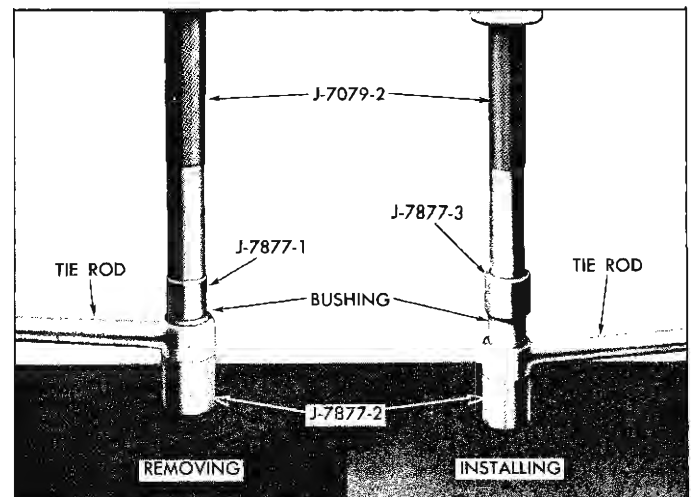

Fig. 33—Tie Rod Bushing Replacement
1. With tie rod bushing centered over Tool J-7877-2 and with tie rod supported horizontally, press or drive bushing from rod, using Tools J-7877-1 and J-7079-2 as shown in Figure 33.
2. With tie rod end centered over Tool J-7877-2 and rod supported horizontally, press or drive bushing into arm using Tools J-7877-3 and J-7079-2 as shown in Figure 33. Tool J-7877-3 should bottom on tie rod when bushing is fully installed.